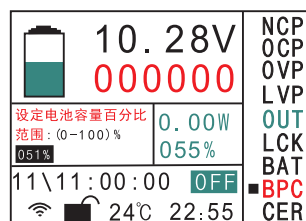

Figure 4-8
8). "**BPC**" Battery remaining capacity setting, can be estimated according to the actual use of the remaining battery capacity, this option can be set to the remaining battery capacity, convenient to test. When setting the battery remaining capacity, the parameter setting is completed when the real-time percentage and the set percentage are the same, as shown in Figure 4-8.